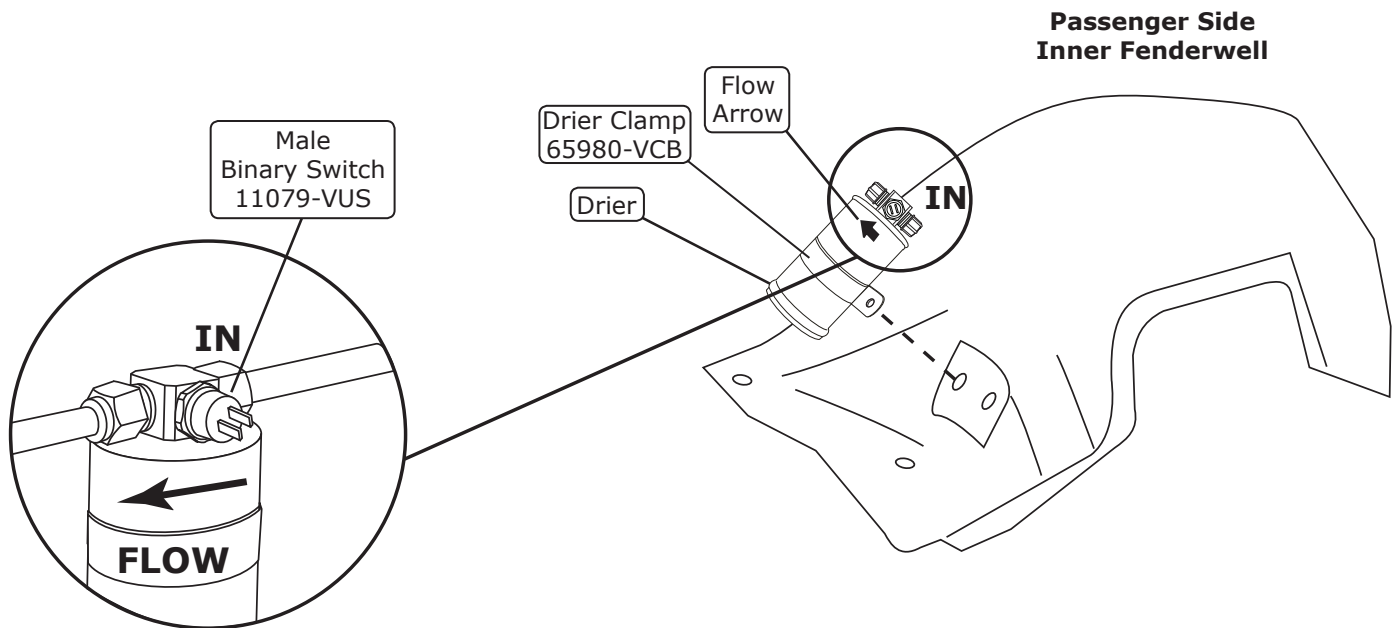

Figure 22
1. Install the drier clamp onto the drier (See Figure 22, below).
3. Remove the plug from the drier, and install the binary switch as shown in Figure 22, below.